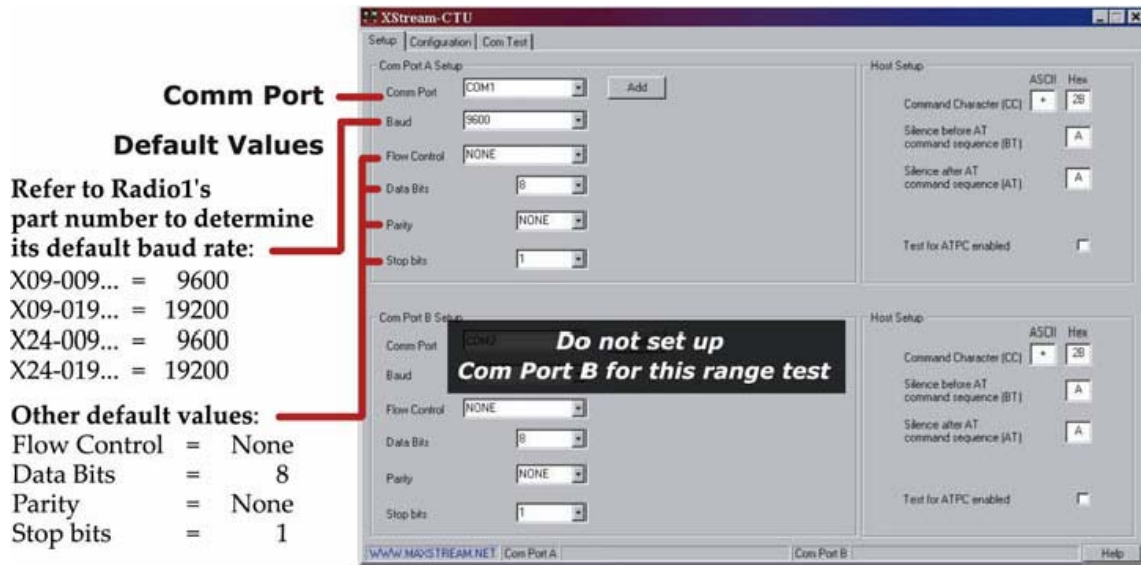

Figure 31: Configuration COM port of PC.
2. Select the PC Serial com port from the dropdown list that will be used to connect to Radio1 (see tab “Setup”). Generally COM1 is used. COM set-up should be as follows: Baud 19200; Flow control: NONE; Data Bits: 8; Parity: NONE; Stop Bits: 1 (see Figure 31).